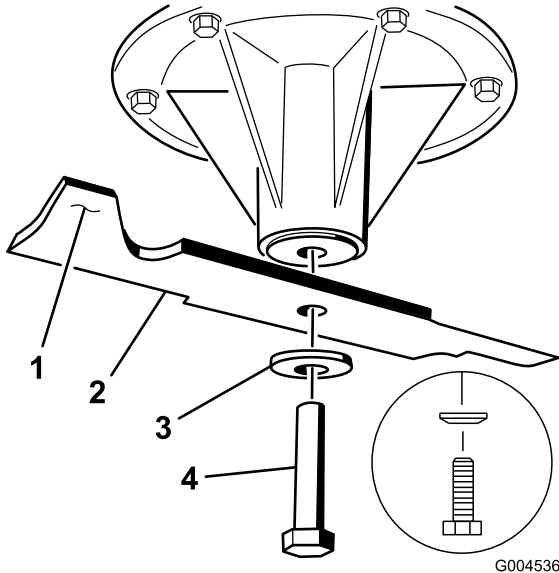

Figure 73
2. Remove the blade bolt, curved washer, and blade from the spindle shaft (Figure 73).